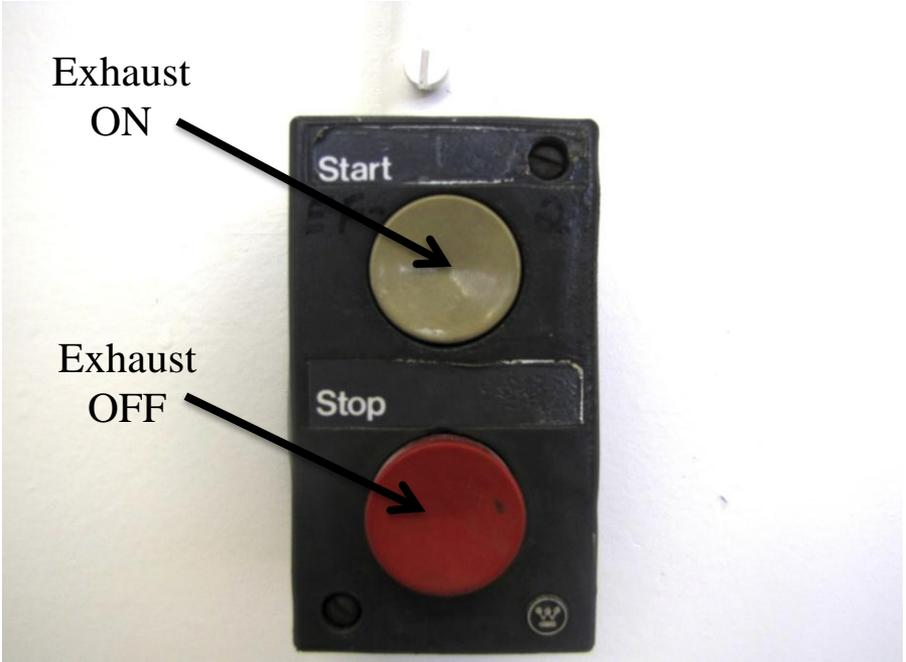

Figure 7: Buttons to Turn On and OFF Ventilation
5. **TURN ON** the exhaust fan at this time (Figure 7).